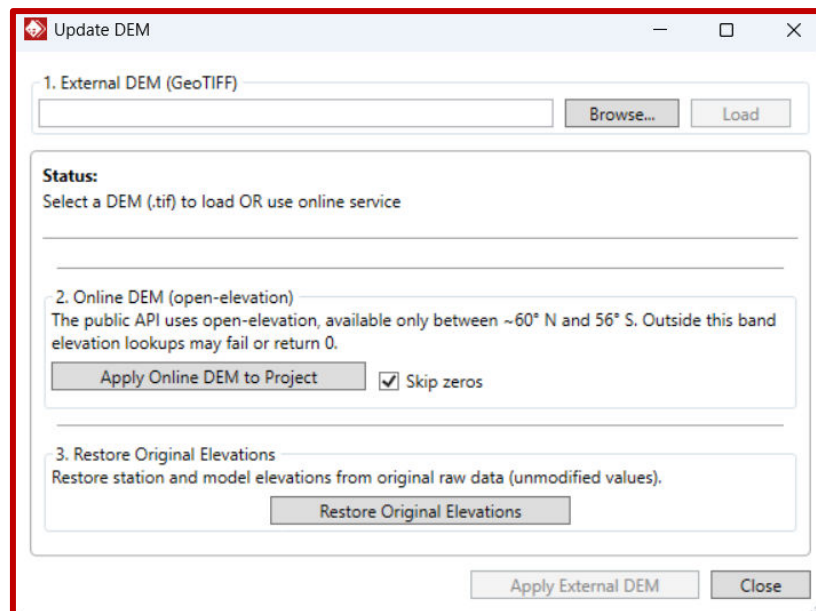

Figure 11: Update DEM window options
- A window with different options will appear (Figure 11):